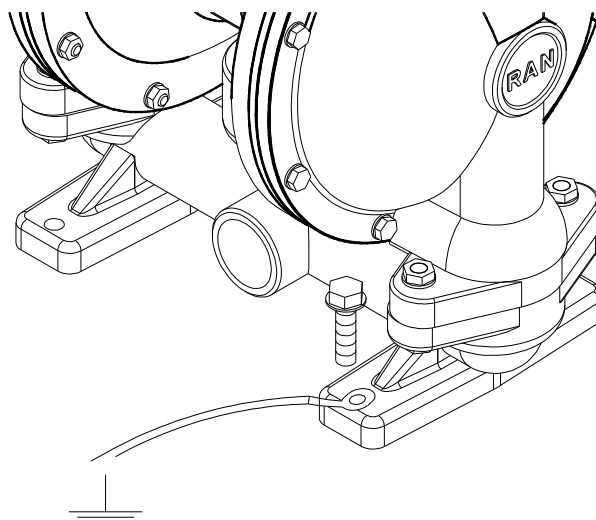

Figure 7- Pump grounding
3. Using a 8 mm socket wrench, remove the bolts holding the fluid covers to the air covers. Pull the fluid covers off the pump. See Fig. 7.